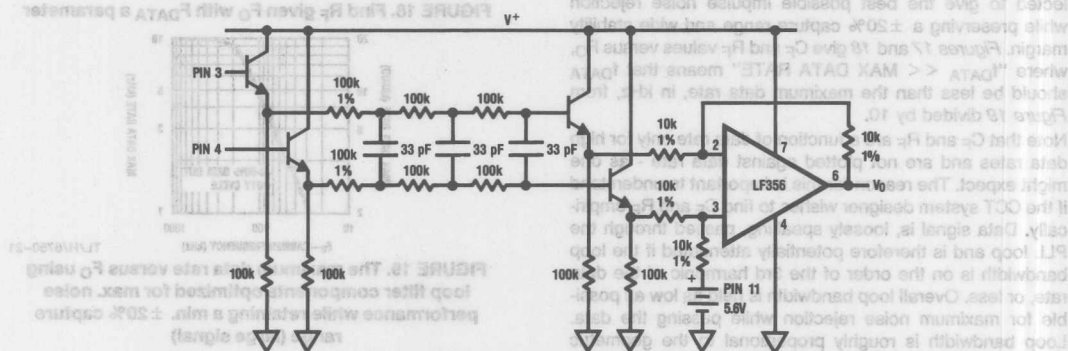

FIGURE 22. Circuit to view the differential demodulated data signal, minus the noise and $2F_0$ components, conveniently with a single-ended gain-of-one output
- When evaluating PLL operation, offset cancel circuit operation, and loop filter values, use the filter of Figure 22 to view the demodulated signal minus the $2F_0$ and noise components. This filter models the RC lowpass filter on chip.
FIGURE 24. Oscillogram revealing signals at several important nodes under weak signal (0.5 mV_{RMS}) conditions with SCR spikes on an otherwise quiet 115 V, 60 Hz power line. The signals are: 1) transmitted data, 2) RX carrier on the tuned transformer, 3) demodulated signal from the PLL after passing thru circuit of Figure 22, 4) signal after RC lowpass, 5) data at impulse noise filter integrator, and 6) received data. Horizontal scale is 10 ms per div.